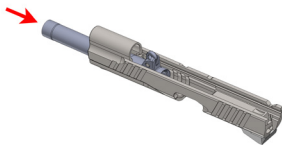

Figure 38
- With the bottom of the slide turned up, install the barrel into the slide with the chamber end first and the barrel link facing up— Figure 38.